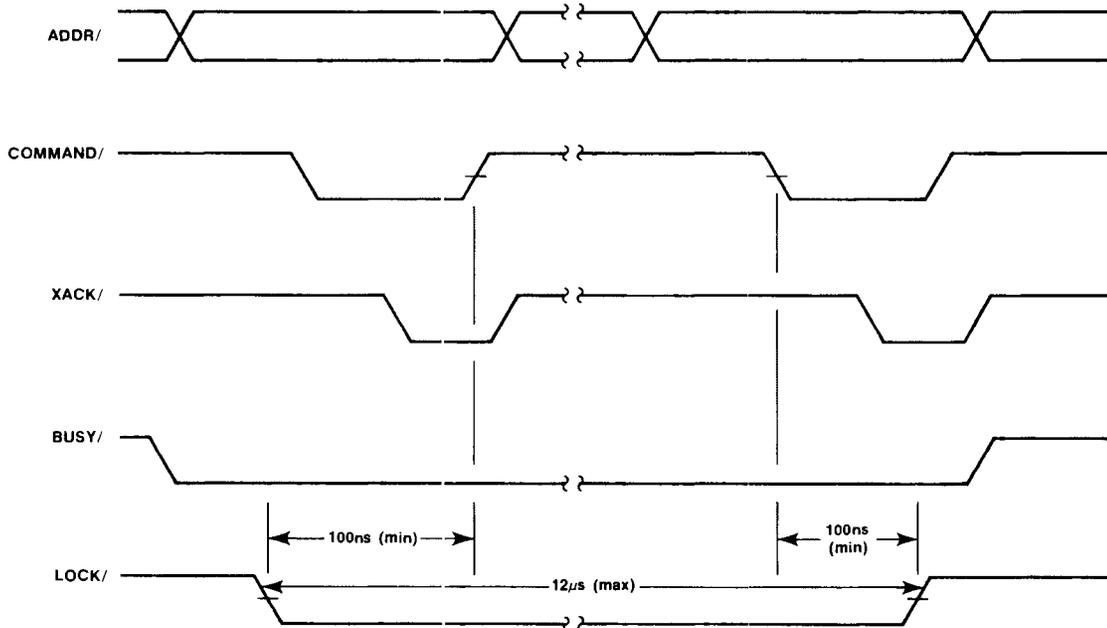

Figure 2-12. Lock Timing
**2.2.2.8 LOCK (LOCK/).** The lock line is driven by the master in control of the bus when a locked bus access is required. A locked access is typically required in a read-modify-write semaphore operation to prevent another processor from accessing the memory between the read and the write. The busy line allows for this mutual exclusion on the MULTIBUS. The Lock line allows mutual exclusion to be extended off of the bus. The Lock signal (LOCK/) must be active 100 nanoseconds prior to the read or write command going away. It must remain active a minimum of 100 nanoseconds after the falling edge of the command signal for the last locked memory cycle. The slave locks its multiple-ported memory to the MULTIBUS when it is addressed and the lock line is asserted. The lock signal must not be asserted for more than 12 microseconds continuously. This assures the processor on the other side of the multiple-ported memory that it will gain access to the memory in a reasonable amount of time. The busy signal (BUSY/) must be active whenever the Lock line is asserted. Figure 2-12 shows the timing for the lock signal.
Figure 2-12 depicts an example of bus vectored interrupt implementation.